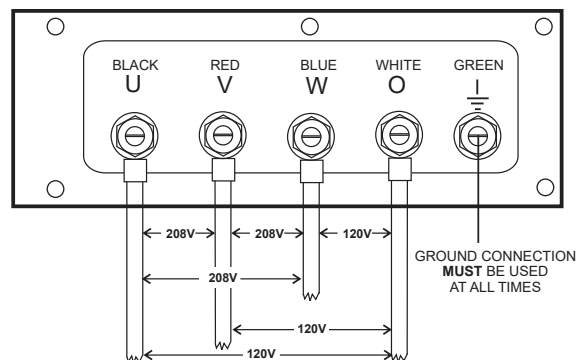

Figure 22. UVWO Terminal Lugs (3-Phase 208-Volt / 1-Phase 120-Volt Connections)
2. Connect the load wires to the **UVWO terminal lugs** as shown in Figure 22.